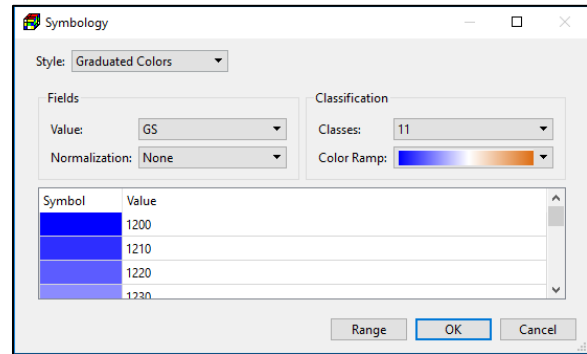

Figure 12. The Symbology dialog box - Graduated Colors
3. Graduated Colors (Figure 12)